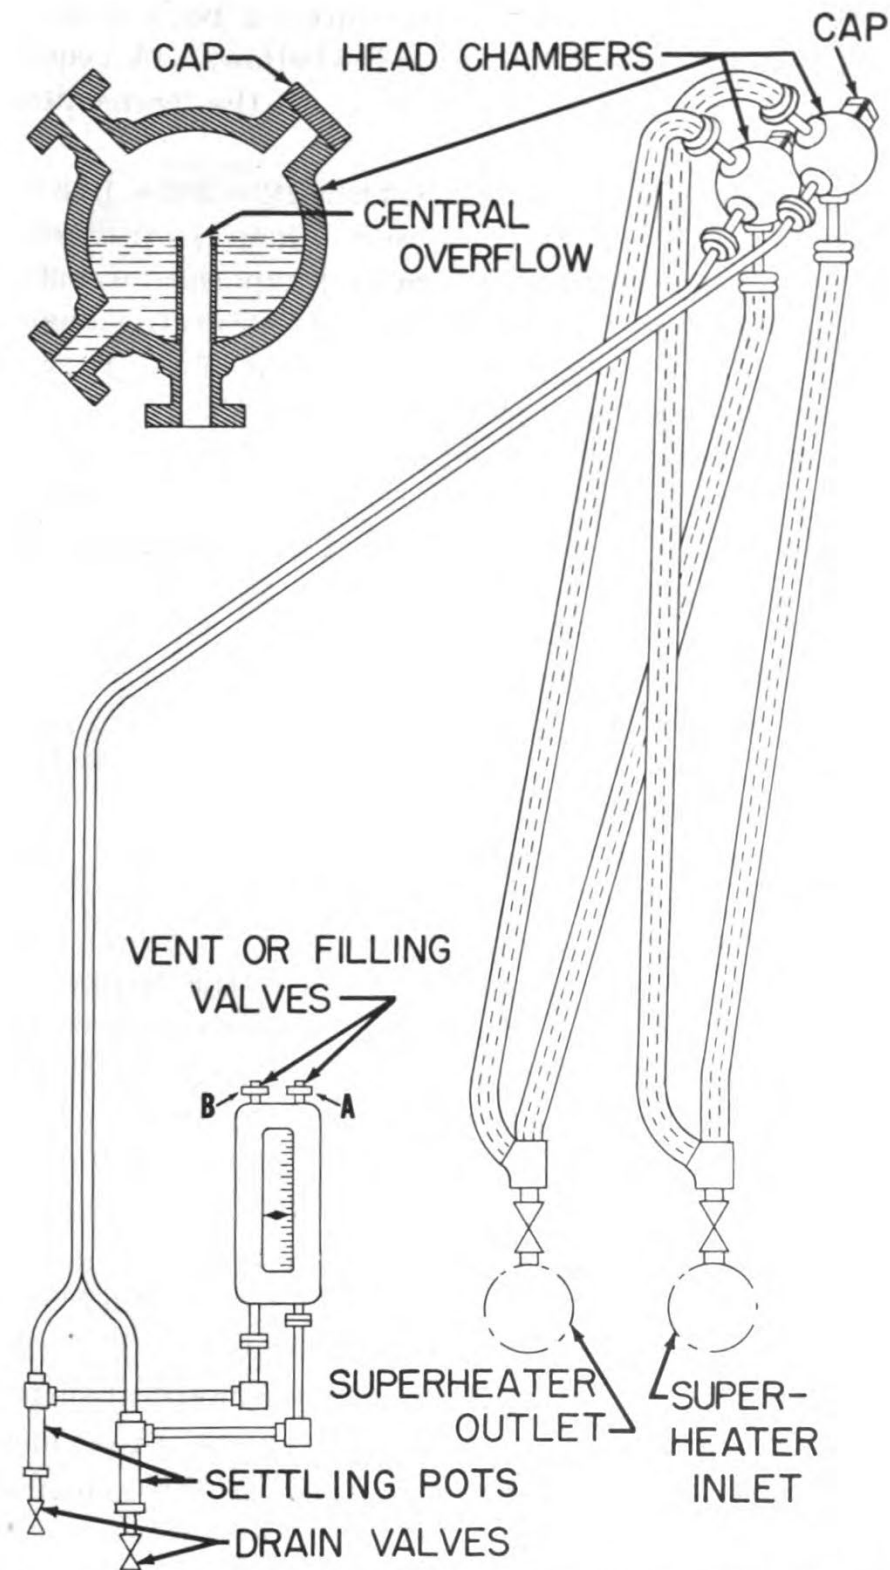

Figure 4-7.—Yarway remote pressure differential indicator (general arrangement).
The YARWAY SUPERHEATER STEAM FLOW INDICATOR, like the Bailey low flow protection device, responds to the difference between superheater inlet pressure and superheater outlet pressure, as these two pressures act upon separate columns or heads of water. The general arrangement of the Yarway indicator is shown in figure 4-7.
1. Connect a water hose to the filling valve marked *A* in figure 4-7. Open valve *A*. Fill the instrument and the piping with clean water under pressure, until water in the upper head chamber overflows through the central overflow connection. Remove the plug or cap on the upper head chamber and observe the water level; use a flashlight to illuminate the interior of the chamber. When you are sure that the chamber has been filled to overflowing, close valve *A* and disconnect the water hose.
2. Connect the water hose to the filling valve marked *B* in figure 4-7, open valve *B*, and fill until the water in the lower head chamber overflows through the central overflow connection. Check the water level, as above. Close valve *B* and remove the hose.